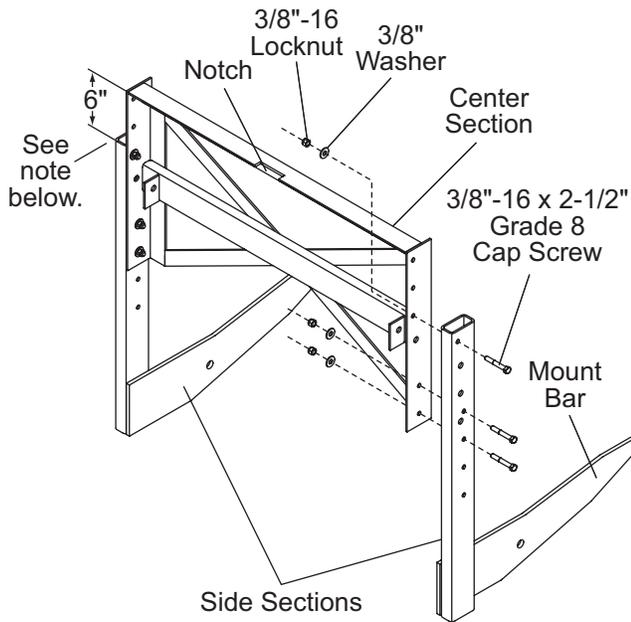

Figure 8
1. Place the center section on the ground with the notch in the top cross member facing downward. Position the L-shaped side sections on either side of the center section so that their 3/8" thick mount bars are pointing upward and are inboard of their tubes (narrow configuration). Locate the two L-shaped side sections so that the tops of their tubes are approximately 6" below the top cross member of the center section. (See Figure 8.)